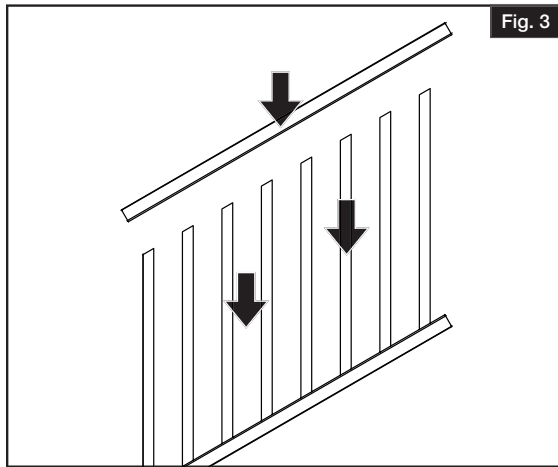

Fig. 3
After posts have been installed, determine angle of railing (Fig. 3).
- Assemble your stair railing section by snapping balusters into bottom rail (Fig. 3)